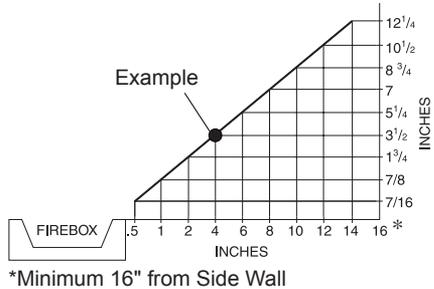

Figure 4 - Minimum Clearance for Combustible to Wall
- where curtains, furniture, clothing or other flammable objects are less than 36" from the front, and 42" from top of heater - for side clearances see Figure 4, page 9
A. Clearances from the side of the fireplace cabinet to any combustible material and wall should follow diagram in Figure 4.
Example: The face of a mantel, bookshelf, etc. is made of combustible material and protrudes 3 1/2" from the wall. This combustible material must be 4" from the side of the fireplace cabinet (see Figure 4).